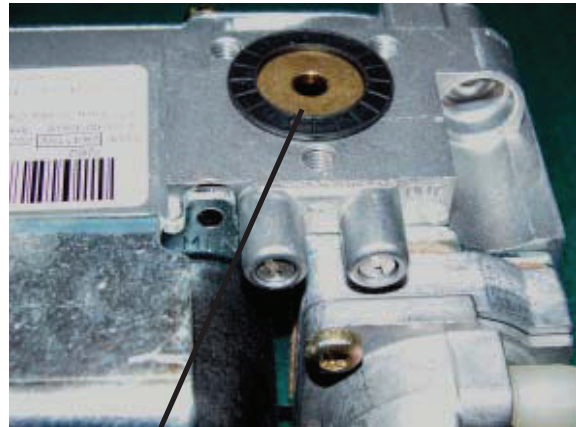

Fig. 6.1
3. Fit the Conversion Orifice into the Rubber Seal that sits in the Gas Valve. (**See Fig.6.1**)